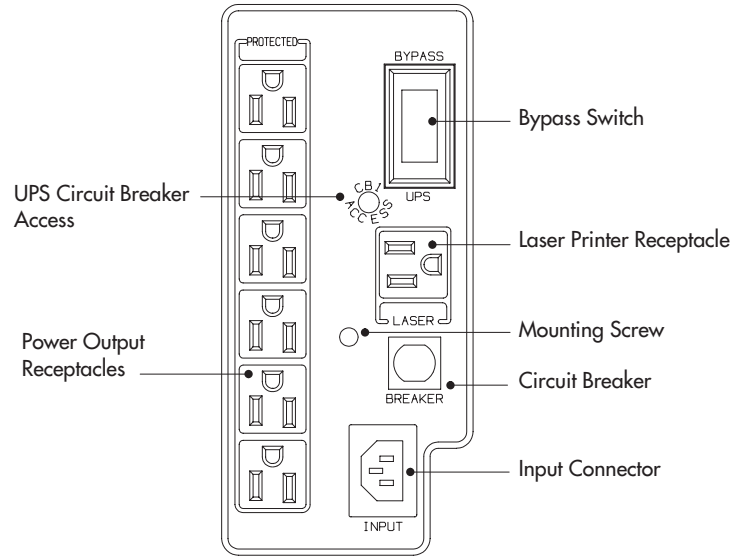

Figure 13. BDM Front Panel (120V Version)
- 2** Toggle the Bypass switch on the BDM to the BYPASS position (see Figure 13 or Figure 14). The BDM is now powering your equipment from utility power.
- 4** Turn the circuit breaker on all battery modules to the OFF (O) position.